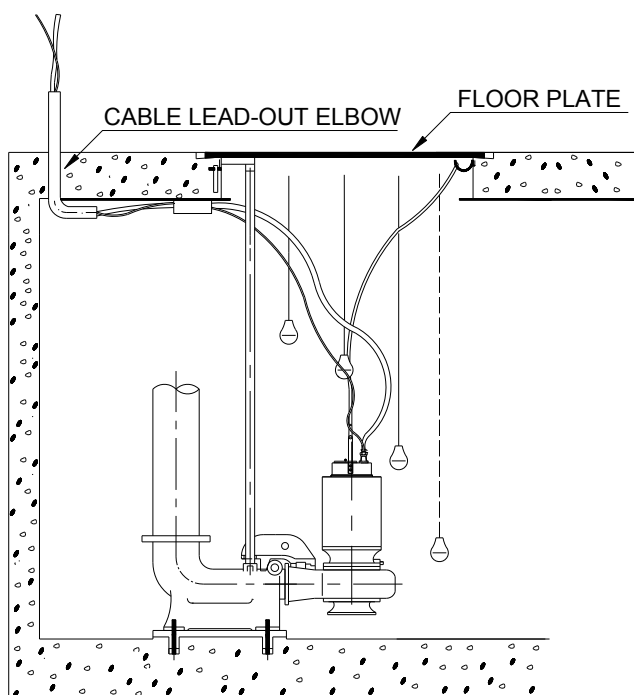

Fig. 13
3.8 Cable Installation (Fig. 13)